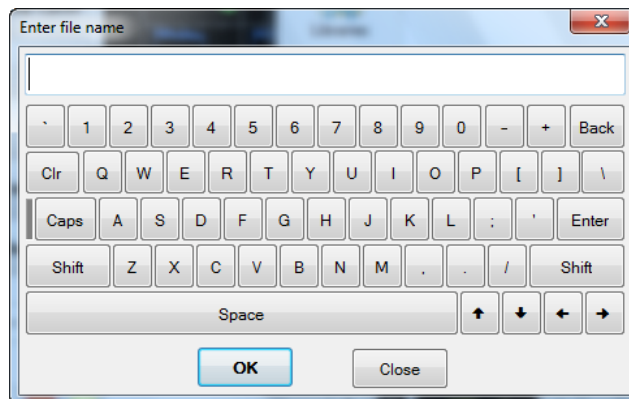

Figure 2-52 On-screen keyboard
- 3 Select **Keyboard** on the Save Waveform dialog to display the on-screen keyboard as shown in Figure 2-52. This is useful when there is no keyboard connected to the 8990B.
- 7 Select **Keyboard** on the Load Waveform dialog to display the on-screen keyboard as shown in Figure 2-52. This is useful when there is no keyboard connected to the 8990B.